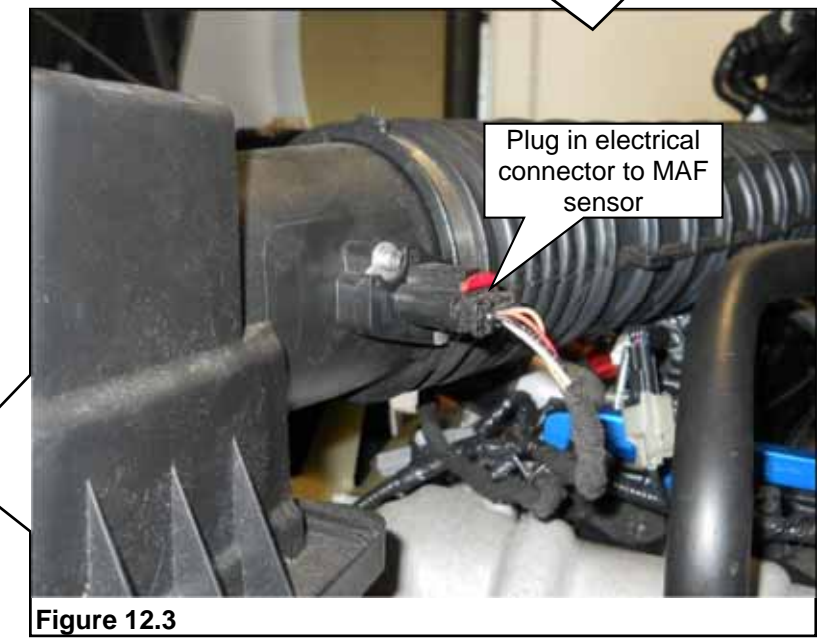

Figure 12.3
3. Connect the MAF sensor electrical connector. **Figure 12.3.**